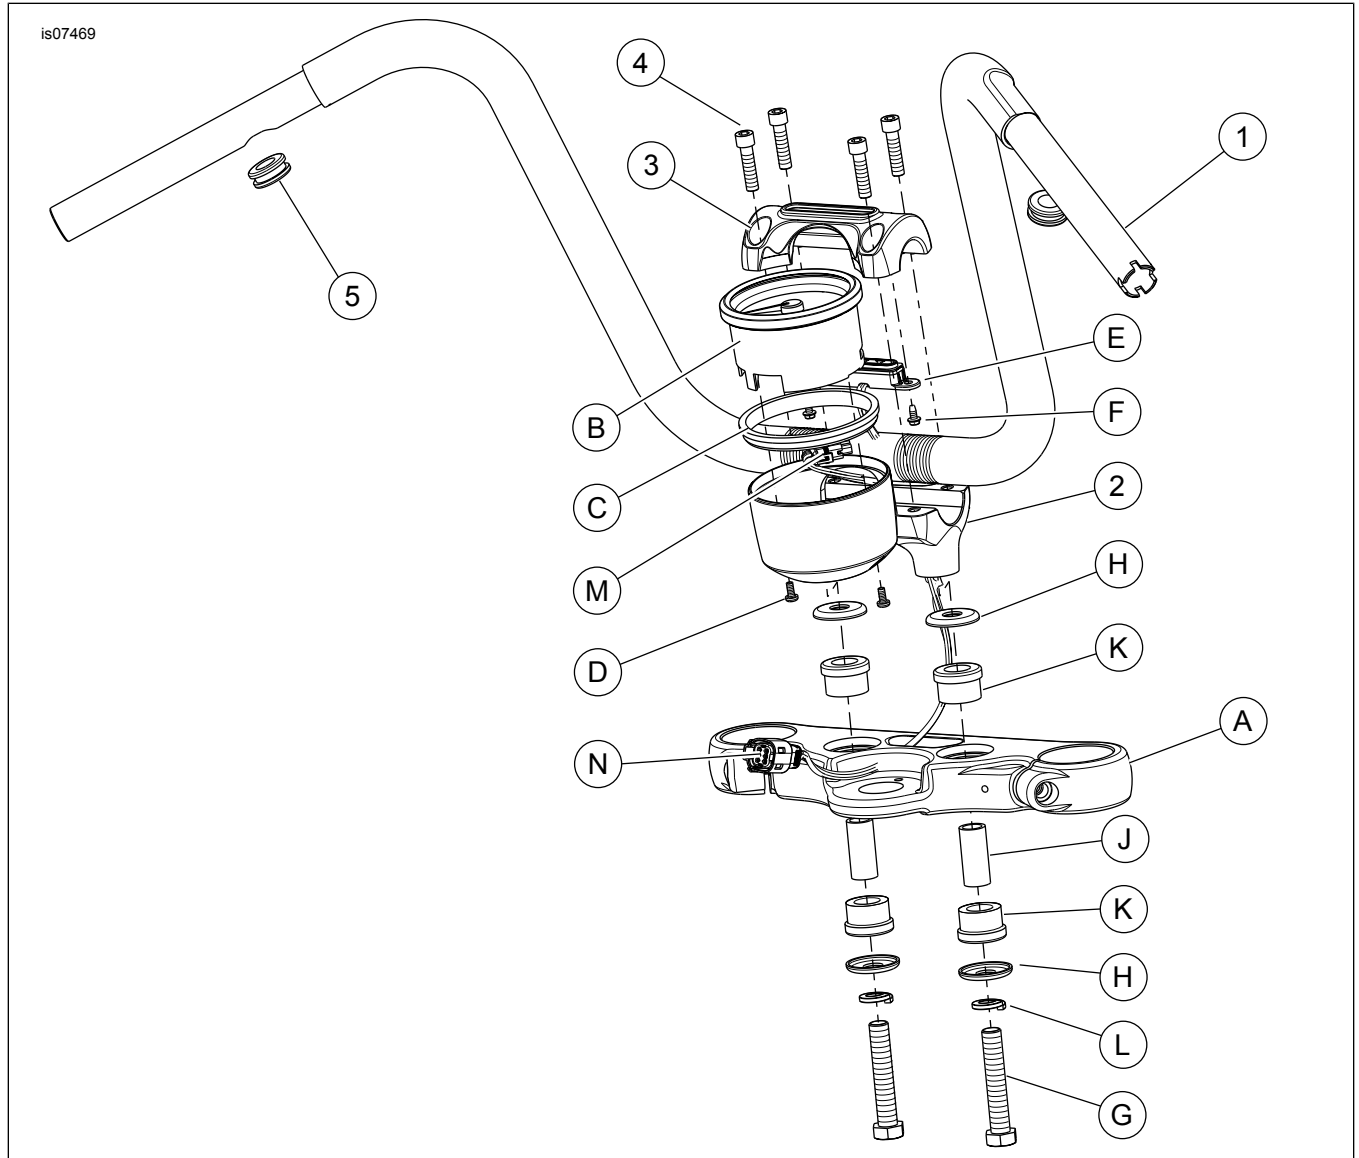

Figure 4. Service Parts, FXSB Fat Mini-Ape Handlebar
7. See Figure 4. Insert the switch-wire grommets (5) into place in the switch-wire openings in the handlebar.
1. See Figure 4. Obtain the riser with speedometer cup (2) from the kit and the indicator lamp assembly with harness removed earlier. Feed the speedometer connector (M) through the wire opening in the speedometer cup.
2. Obtain the gasket (C) and speedometer (B) removed earlier. Place the gasket in place in the riser speedometer cup.
4. With fasteners (D) install speedometer into riser. Tighten.
1. See Figure 4. Install the **new** handlebar riser assembly using the mounting hardware removed earlier.
- b. Fasten the riser with the mounting bolts (G) removed earlier. Do not fully tighten at this time.
- c. Feed the riser harness through the oval opening in the upper fork bracket (A).
5. See Figure 4. **One at a time**, remove riser **base** mounting bolts (G), apply a few drops of threadlocker to the 4-6 threads nearest the end, and install.